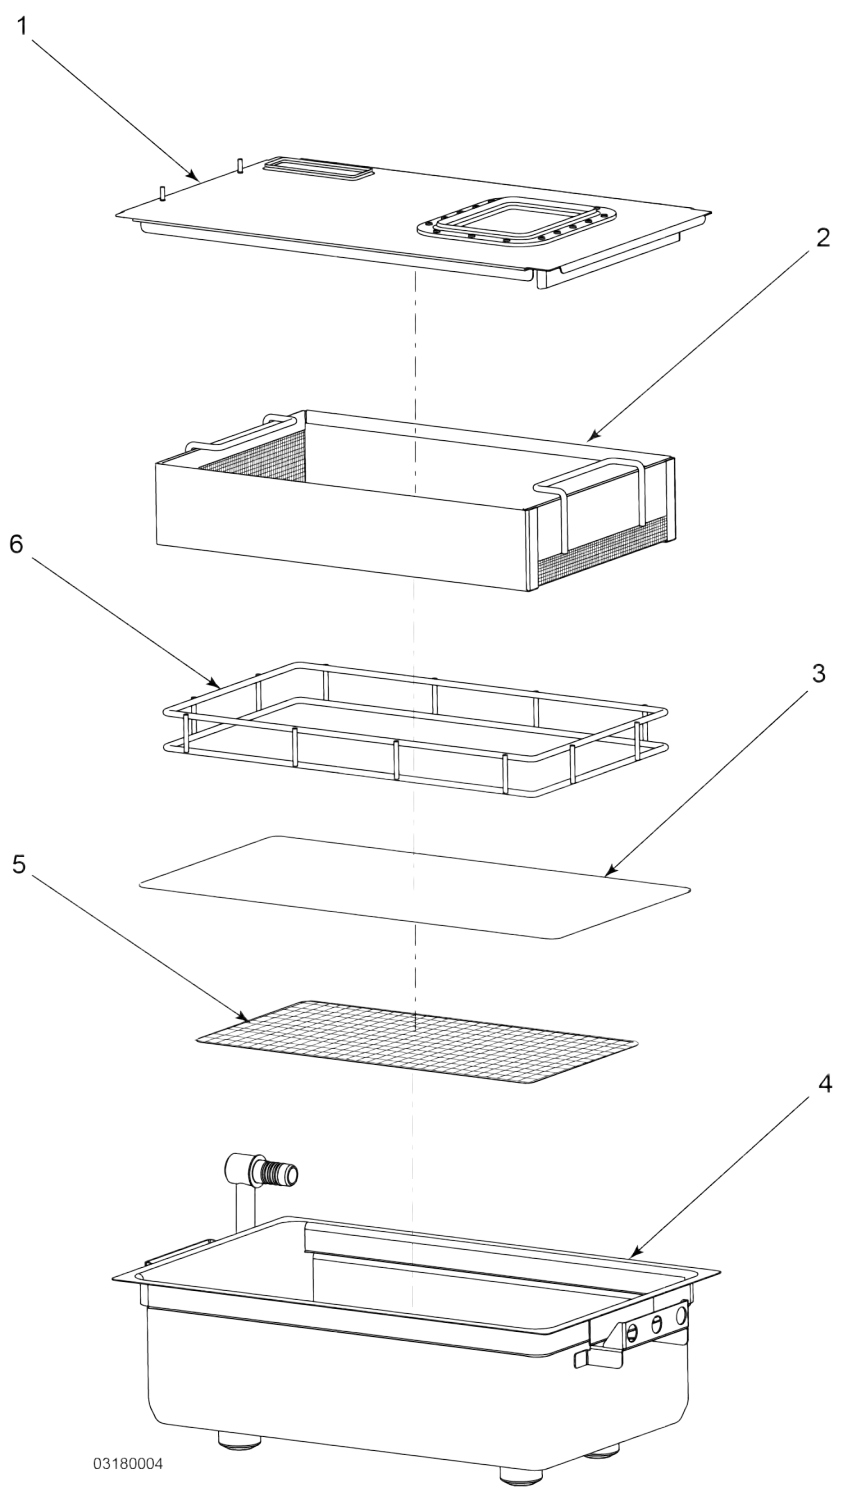

Figure 4-18 Drain Pan Assembly/Disassembly
- 3) Remove the filter pan lid and the crumb basket. Discard the crumbs in the crumb basket, see Figure 4-18 Drain Pan Assembly/Disassembly, page 33.
- a. Place the filter screen (5) in the drain pan base (4), see Figure 4-18 Drain Pan Assembly/Disassembly, page 33.
- b. Place filter paper (3) on top of the filter screen (5).
- c. Place drain pan weight (6) on top of the filter paper (3).
- d. Place crumb catcher (2) on top of the drain pan weight (6).
- e. Place drain pan lid (1) on top of the drain pan base (4).